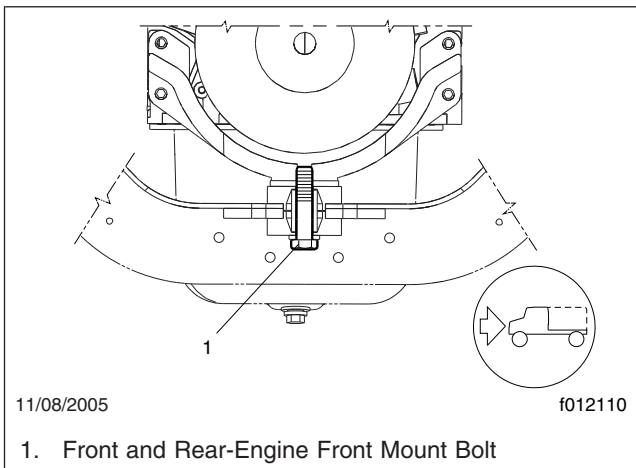

Fig. 4, Front and Rear-Engine Front Mount (ISB chassis built after 2002)
2. Check the 3/4–10 front-engine front mount bolt. See Fig. 4. Tighten it 95 lbf·ft (128 N·m).